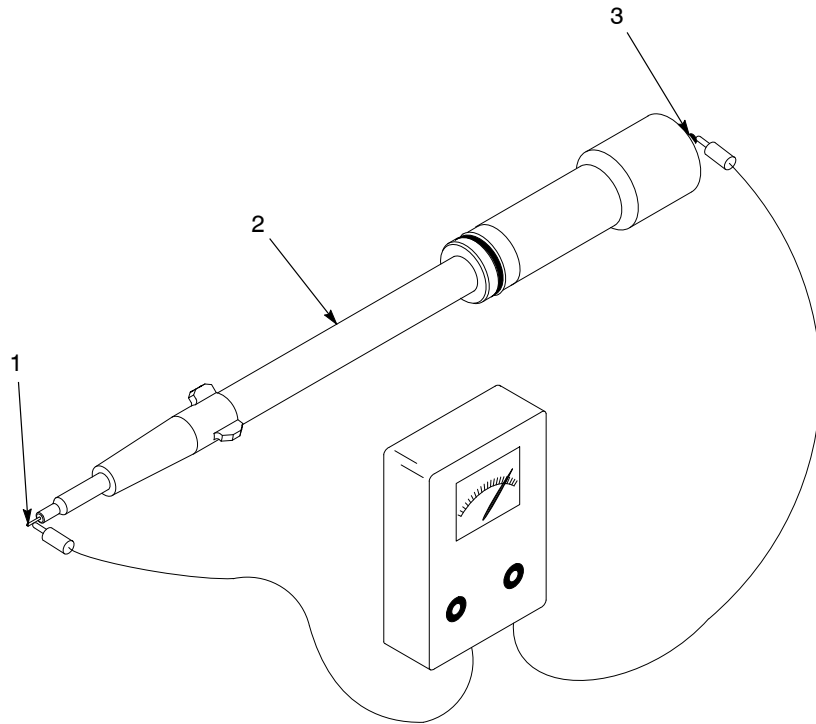

Figure 6-2 Electrode Assembly Resistance Check
1. Unscrew the electrode assembly (4) from the multiplier (3).
2. See Figure 6-2. Connect the megohmmeter probes to the electrode (1) and the contact pin (3).